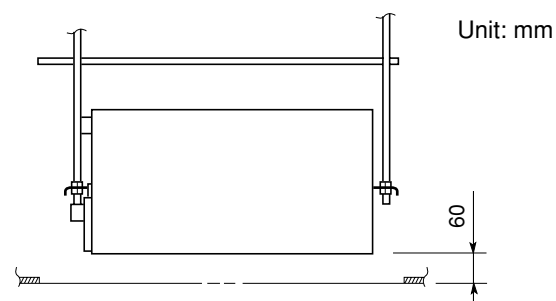

Fig. 3-39
- (3) The distance between the unit and the opening in the ceiling and the distance between the bottom surface of the ceiling and the bottom surface of the flange of the unit should follow the dimensions given in Figs. 3-39. Use the supplied installation gauge to check.